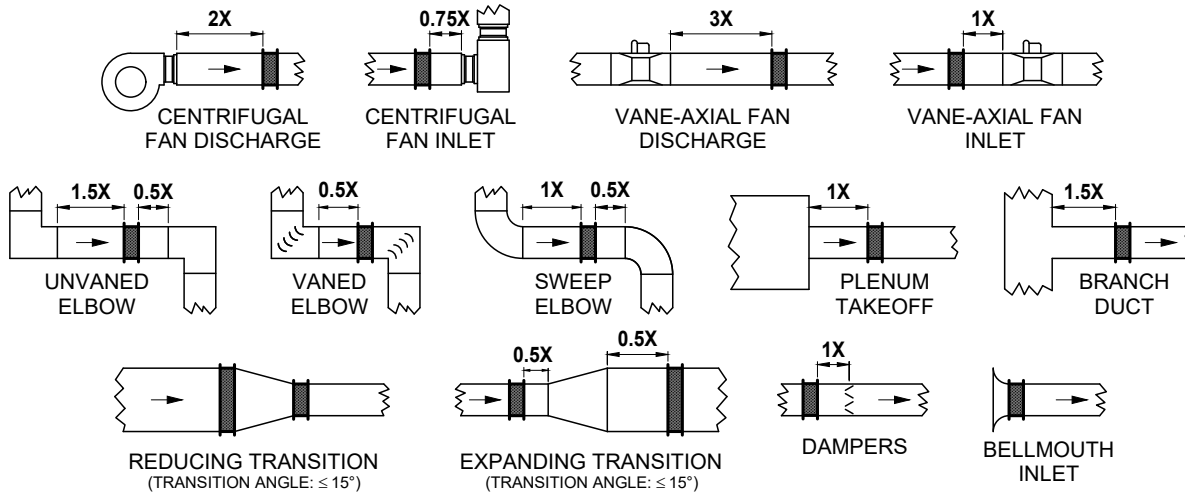

Figure 1
- **Turbulent Airflow.** The aerodynamic design of the ELECTRA-flo/S5 sensor aperture will permit accurate flow measurement in the presence of moderate air turbulence. The distances from air turbulence producing fittings, transitions, etc., shown in Figure 1 are required to assure accurate airflow measurement.
ELECTRA-flo/S5 Probe Array, Level 1	Figure 1
ELECTRA-flo/S5-MM Station, Level 1	Figure 1
ELECTRA-flo/S5-CM Station, Level 2	Figure 1